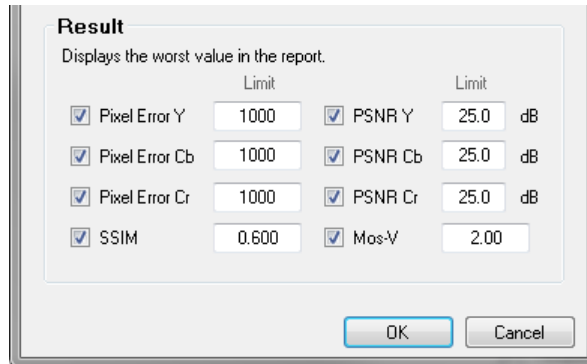

Fig. 4-4: Test Properties dialog for MeasureVideo test module
- Results selected under **RESULT** (Fig. 4-4)